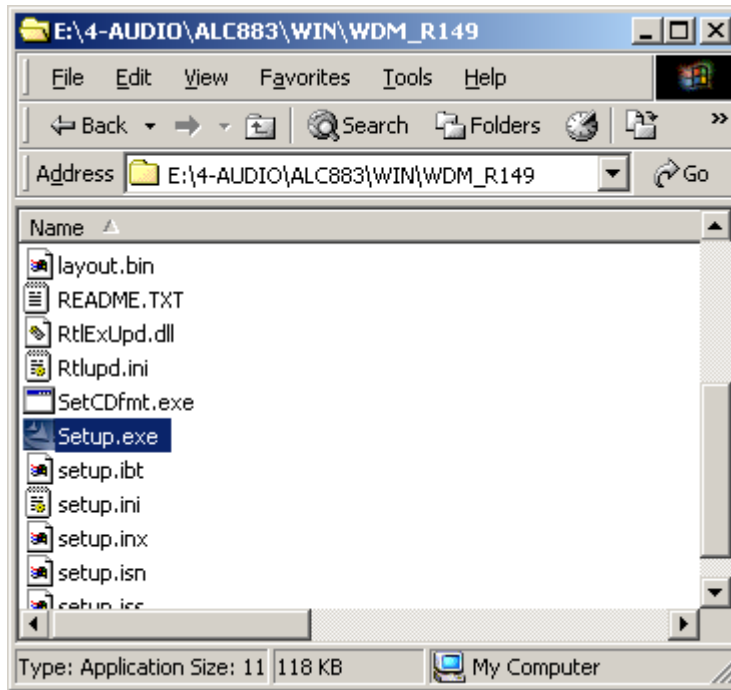

Figure 7-26: Locate the Setup Program Icon
Step 6: Double-click the **Setup.exe** program icon in **Figure 7-26**.